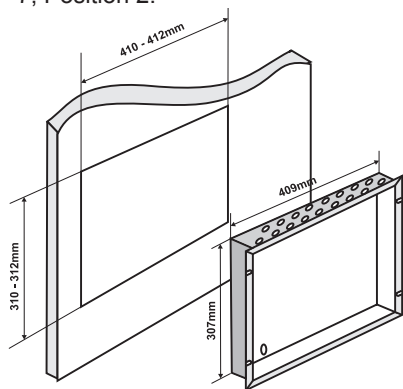

Figure 6.
- Use the dimension shown in Figure 6 to draw and cut out the mounting openings in the drywall.